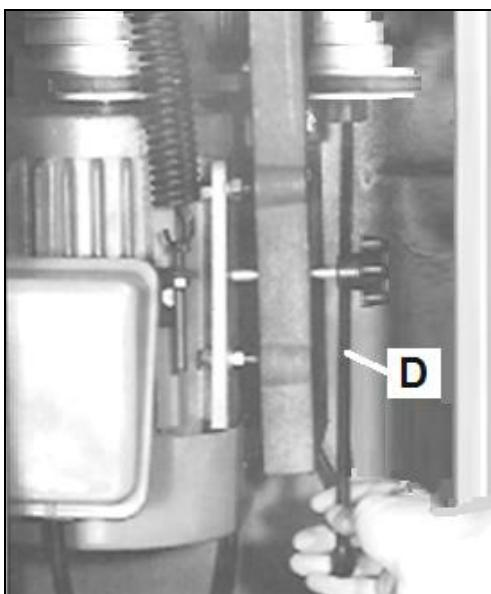

**Fig 11**
2) Place the arbour (A, Fig 11) into the spindle and thread arbour onto the nut (N).